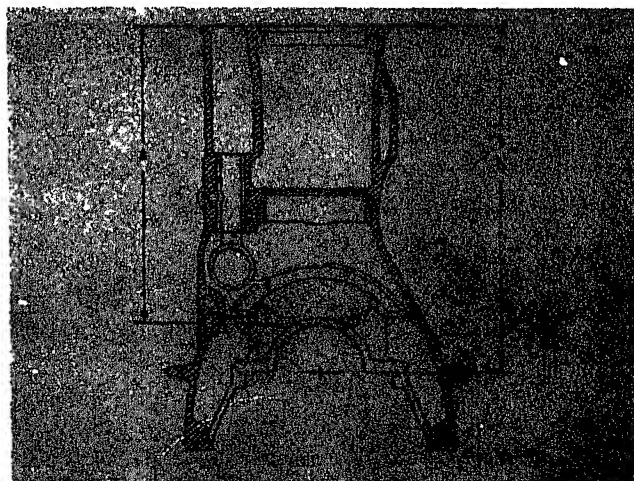

Fig. 1-1-17. Oil hole block height
3. Check distance from centerline of main bearing bore to top of block, Figs. 1-1-17 and 1-1-18.
Table 1-1-11: Cylinder Block Height From Main Bearing Centerline (B, Fig. 1-1-17)
Table 1-1-12: Cylinder Block Height From Alignment Bar (A, Fig. 1-1-17)